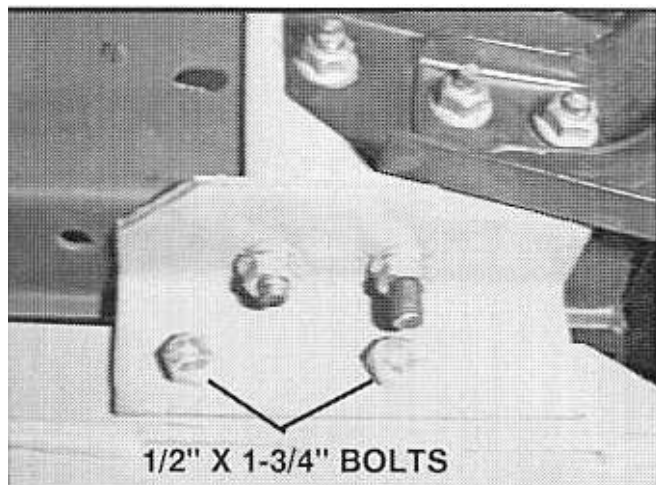

Figure 9
1. Position assembled subframe under truck between two rear subframe brackets. Install four 1/2" x 1-3/4" grade 5 bolts with a 1/2" flat washer and a 1/2" locknut. See Figure 9.